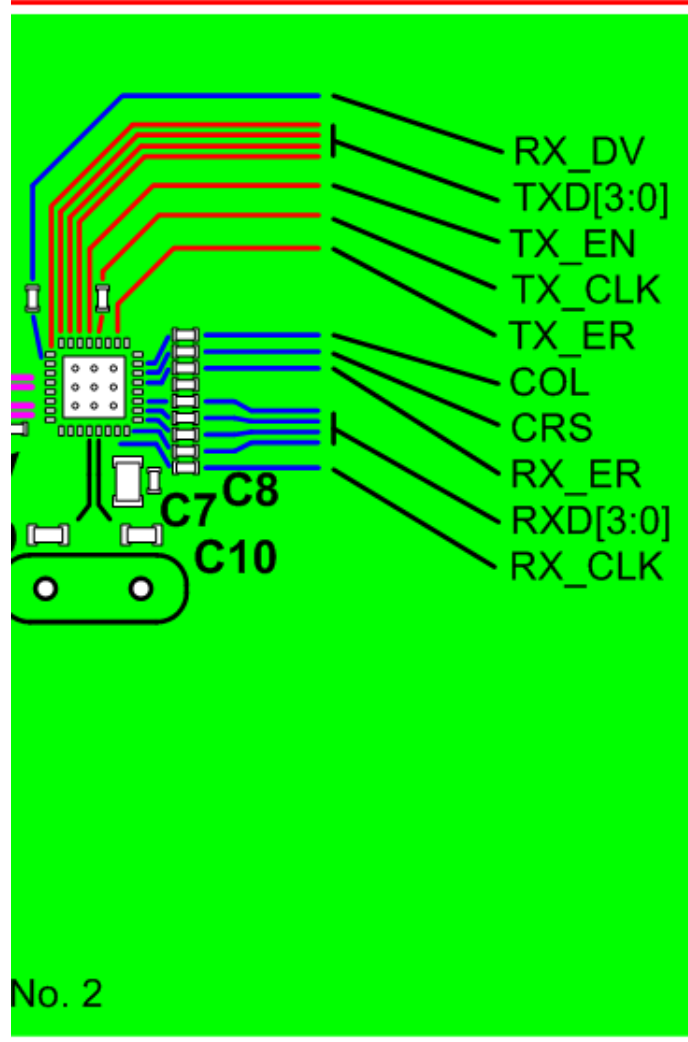

Figure No. 5
6. Refer to Figures No. 5 and No. 6 for details on MII signal routing.